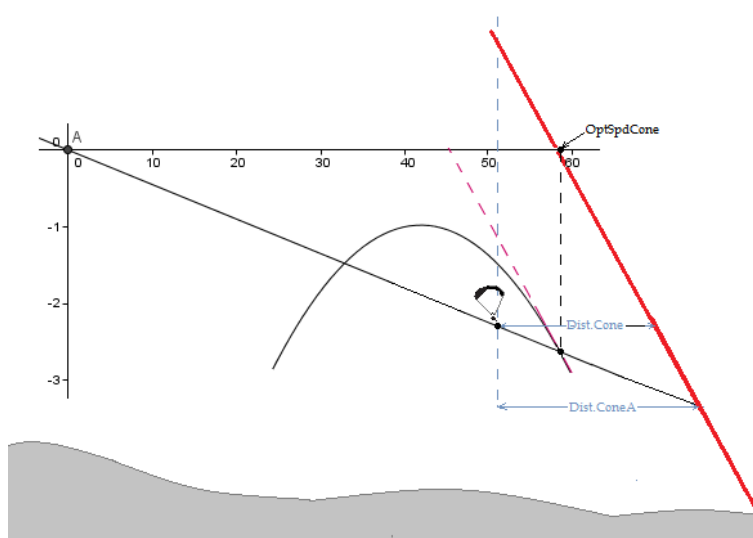

Figure 5.2: Conical End of Speed Section
Consider the same task represented in Figure 4.5, but now the *End of Speed Section* (ESS) is a cone with 4:1 ratio. In order to set up the task you should make the same steps defined in Section 5.1 except the step 5. As the cone as a ratio of 4:1 in this step you should set the *Cone* parameter to 4.0. The LIVE SD provides some information to optimize the navigation when the ESS is conical. This information is provided through 5 additional data fields which can be included in a Layout page. Each of the data fields is explained in Section 3.2, but for a better understanding consider the situation of Figure 5.2.
In the example of Figure 5.2, the pilot is flying to the ESS at a certain true air speed (TAS). There is an optimum TAS value which minimizes the time to reach the ESS. This value depends on the polar and cone ratio, and is not affected by the wind or thermals. The LIVE SD calculates the optimal TAS value
When the ESS is a cylinder the distance to the ESS does not depend on the pilot altitude. On the contrary, when the ESS is a cone the distance to the ESS depends on the altitude. Because of this, the LIVE SD provide 2 distances in 2 different data fields. The *Dist.Cone* data field shows the distance to the ESS at the current pilot altitude (see Figure 5.2). As the glider glide ratio (GR) is usually positive and finite the altitude at which the pilot reaches the ESS is different from the current altitude, so real distance to the cone depends on the GR. The *Dist.ConeA* data field shows the horizontal distance to the ESS considering the expected average GR trough the remaining path (see Figure 5.2).